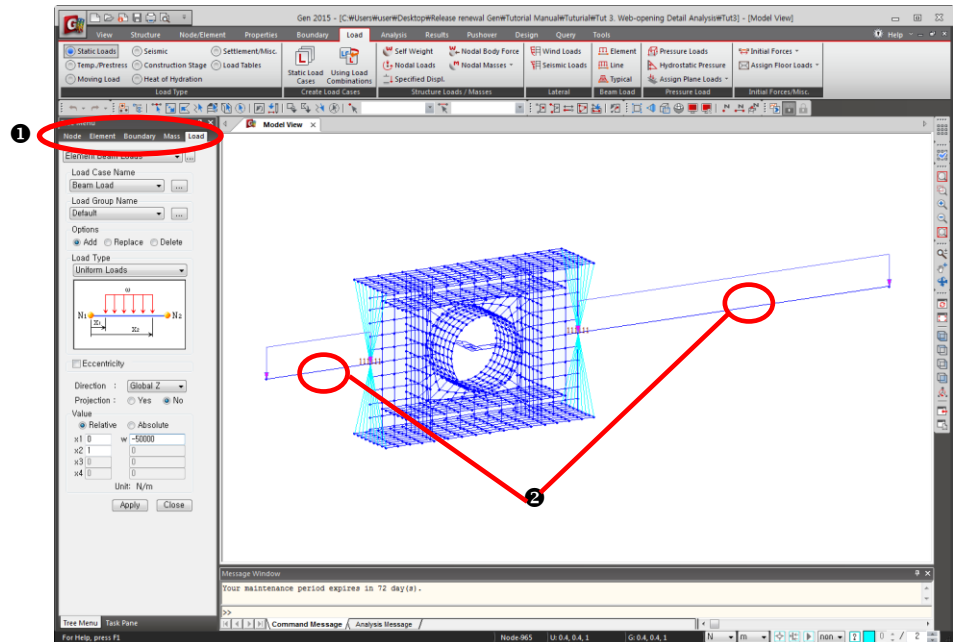

Figure 3.18. Assigning Uniformly Distributed Load on the top of the Beams
1. Select **Load** in the **Model Entity** tab (Fig.3.18-①).
3. Select the beams at both ends of the opening detail model (Fig.3.18-②).